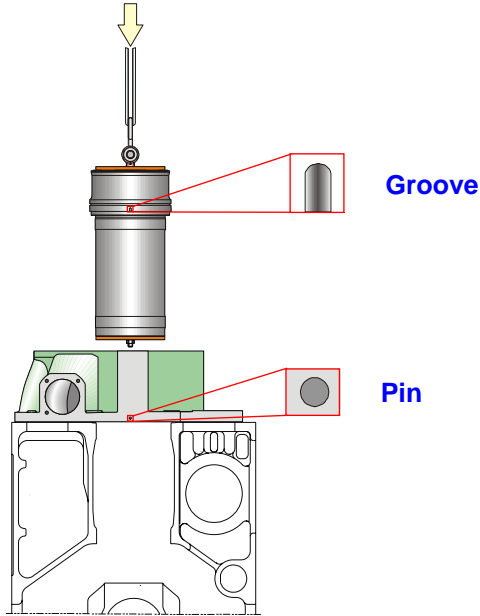

Fig. 2 Lowering of cylinder liner (실린더 라이너의 내려 놓음)
3. During lowering the cylinder liner into water jacket, match the positioning pin and groove as shown in fig 2.